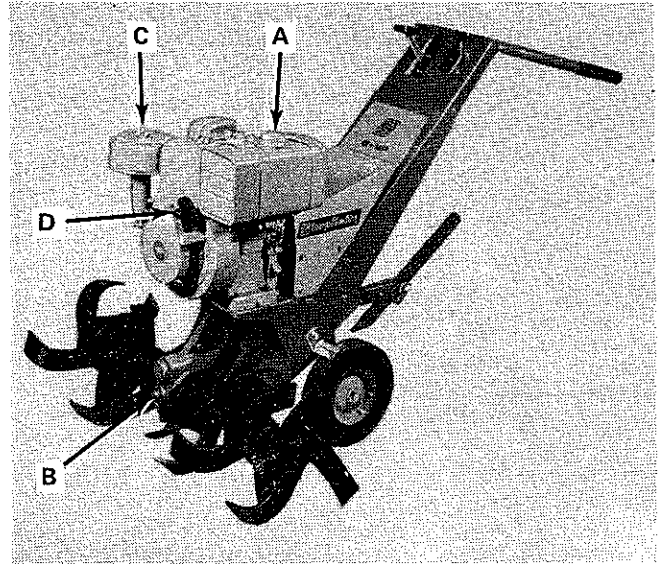
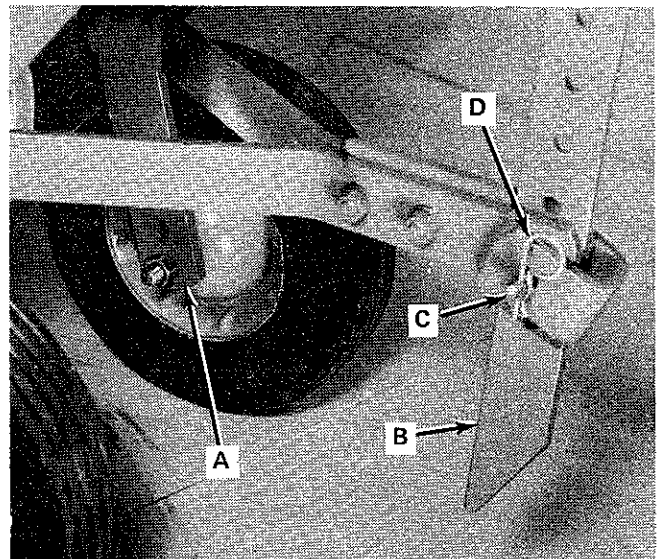
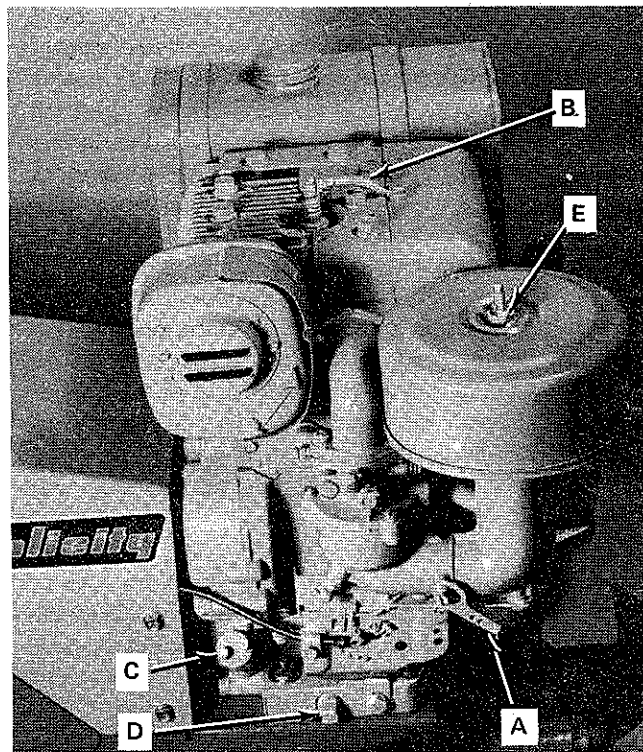

Figure 1. Before Starting Checks
Figure 5. Depth Bar And Wheel Position
Figure 6. Right Side Of Engine
a. Fuel: Turn the fuel tank cap (A, Figure 1) counter-clockwise to remove it. Fill tank with clean, fresh, leaded or non-leaded regular automotive grade gasoline. Do not mix oil with gasoline. Premium gasolines are not recommended as they increase carbon deposits in the engine.
b. Crankcase oil: Check engine crankcase (C, Figure 6) to be sure it is filled with correct grade and weight of oil. Refer to Maintenance section.
c. Worm Drive Housing Oil: The worm drive housing should be checked to insure it is filled to the check plug (B, Figure 1) with special gear oil available at your Simplicity dealer.
d. Air Cleaner: Be sure air cleaner element (C, Figure 1) is in place and properly sealed. If it is dirty, clean or replace it per Maintenance section of this manual.
4. Check to be sure wheels are mounted in lower holes of the frame legs (A, Figure 5).
5. Adjust the depth bar (B, Figure 5) considering the following:
a. The depth bar gives the desired tilling depth. To till 4-6 inches deep, install mounting pin (C, Figure 5) in the second or third hole from the top and secure with a hairpin clip (D). Change pin location as desired. Install the bar with digging tip as shown in Figure 1. The deeper the bar is set in the soil, the deeper the tines will dig.
1. Position choke control (A, Figure 6) in choke position. Choke arm should be at right angles to exhaust tubing when in choke position and parallel to tubing when in open position.
4. Be sure engine stop switch (B, Figure 6) is pulled up and away from spark plug. When stop switch is pushed down against the spark plug, the engine will stop.
5. Grasp the recoil starter handle (D, Figure 1) in right hand and pull sharply straight out to start engine. After engine starts, slowly move choke control arm (A, Figure 6) up or toward open position. If engine fails to start after four or five pulls, it may be flooded. Return choke to the open position and pull the recoil starter handle to clear excess fuel. Always return the handle by hand. Do not release the handle with rope extended.
3. Push the engine stop switch (B, Figure 6) down against the spark plug to stop the engine.
Each time fuel is added, or at least once every five hours of operation, the engine crankcase oil level should be checked. Remove all dirt from around filler plug (C, Figure 6), then remove the filler plug by turning it counter-clockwise. The crankcase oil level should be maintained full to the point of over flowing. If oil is required, add the same grade and weight of oil, which is already in the engine crankcase.
b. While the engine is warm, remove the drain plug (D, Figure 6) and drain the oil from the engine crankcase. Replace the drain plug. Remove oil filler cap (C) and refill the crankcase with new oil, which is classified for service SC or SD, or MS. Nothing should be added to the recommended oil.
- a. Remove wing nut (E, Figure 6).
g. Assemble the parts. Install the air cleaner on the engine and secure with the mounting wing nut (E, Figure 6).